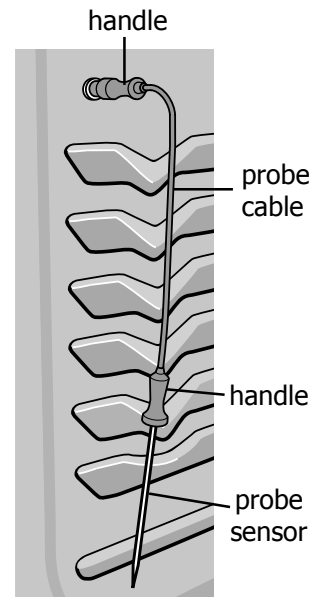

Fig. 2
- To avoid damaging the probe, **do not** use kitchen utensils such as tongs to pull on the probe cable or handles. Always insert and remove the probe using the provided handles (See Fig. 2) and always use a pot holder to protect hands from possible burns.
- For whole poultry or turkey, fully insert the probe sensor into the thickest part of inner thigh, just below the leg (See Fig. 2).